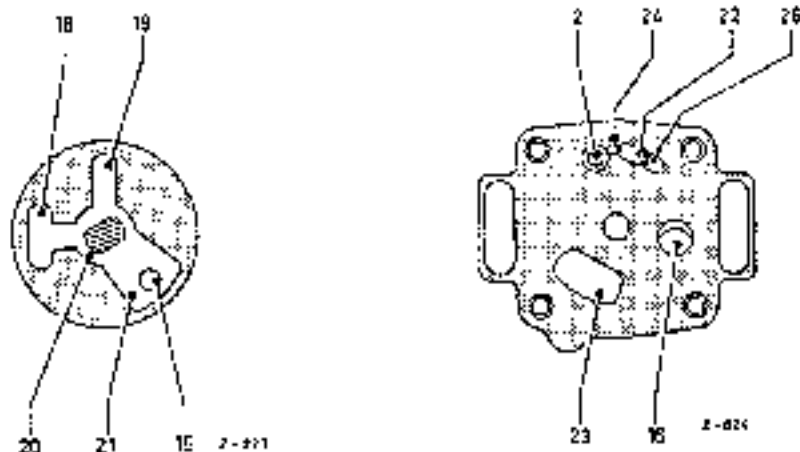

Fig. 07-0:22
When the engine is warmed up, but if the idling speed with the starter mechanism inoperative is still too low, the starter knob can be pushed in about $\frac{3}{4}$ of the way. As a result, the starter rotary slide valve is turned toward the right as seen from warm-up position I. The chamber (19) of the slide valve is now opposite the second part (26) of the split fuel slot in the starter flange on the carburetor housing. Since this second part of the slot is connected to the first part (22) of the fuel slot only by a very fine graded bore, the amount of fuel passed from the starter mechanism is decreased still further (Fig. 07-0:22).